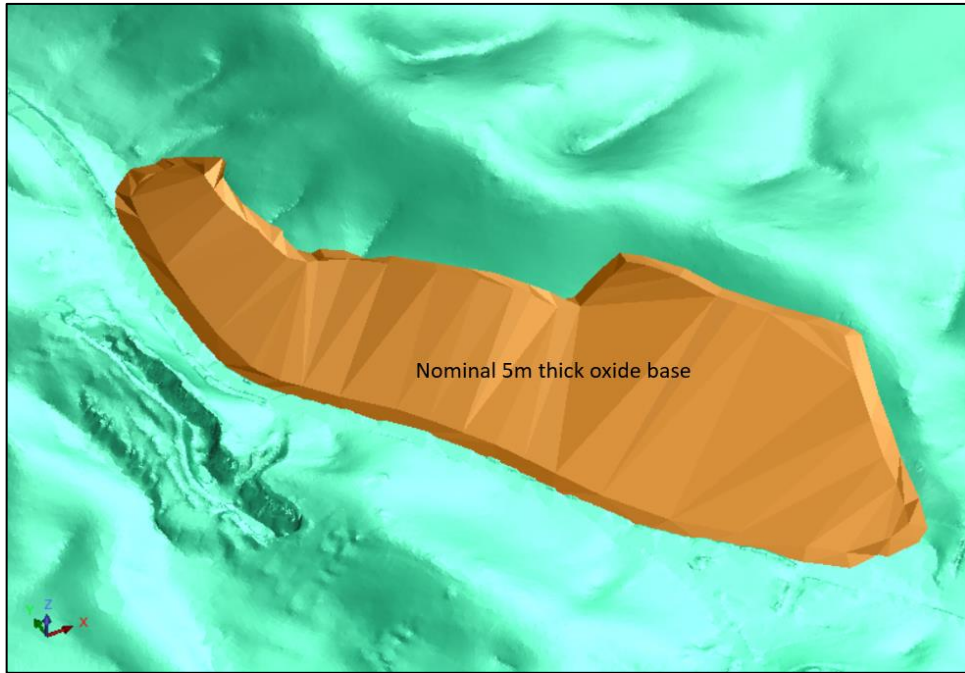

Figure 1-20 Base Oxide Component Running up the Hill Slope - Full Extent
- Nominally five metre thick oxide base traveling up the slope of the hill on which the WRD is situated (Figure 1-20). This covers both the base and east side of the WRD;